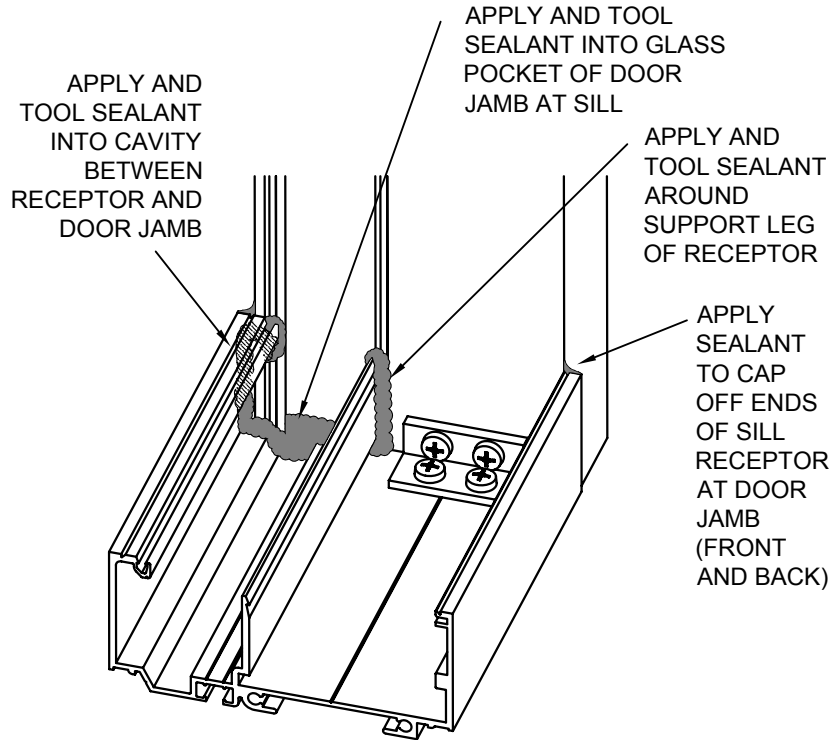

FIGURE 1
- STEP D:** Apply sealant to the bottom glazing pocket of the door jamb and the receptor as shown. (Figure 1)